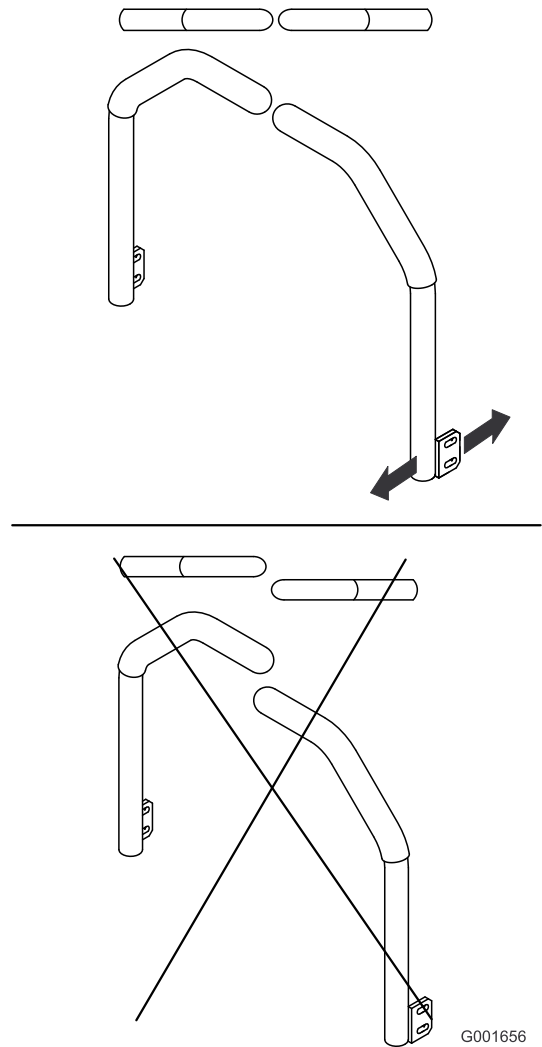

Figure 57
5. Adjust the control levers so that they line up and tighten the bolts, securing the levers to the posts (Figure 57).